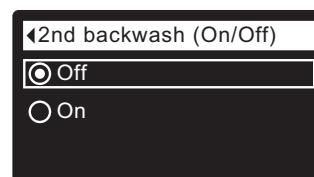

FIG. 76
- 8b. **Second backwash (On/Off):** If the desired option already has a dot next to it (See Figure 76), go to Step 9. Otherwise, press the DOWN (▼) or UP (▲) buttons to scroll to the other option, then press SELECT (O) to choose it. Setting this feature On adds a second backwash and rinse at the beginning of the recharge cycle. Default is Off. Set this feature On if your water supply contains a lot of sediment or iron.